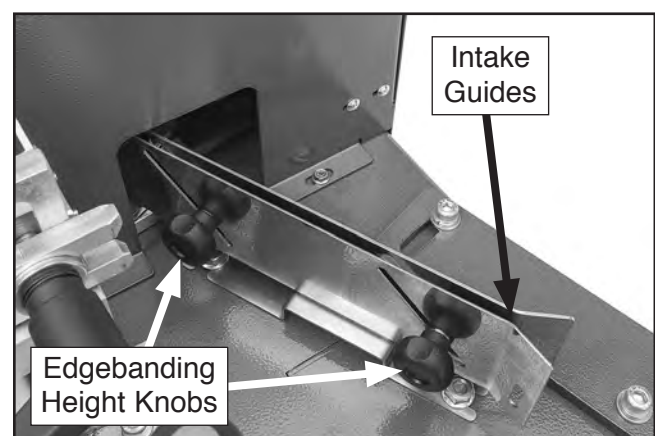

Figure 55. Location of edgebanding height knobs.
2. Loosen edgebanding height knobs on intake guides (see **Figure 55**), raise knobs to allow room for edgebanding tape, then tighten to secure.
5. Insert end of edgebanding tape into intake guides (see **Figures 55–56**).